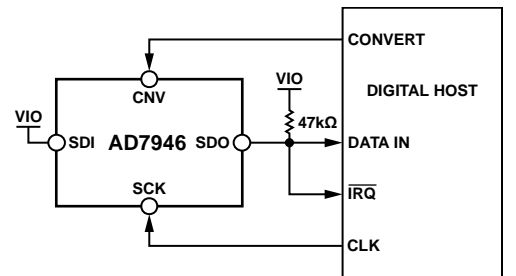
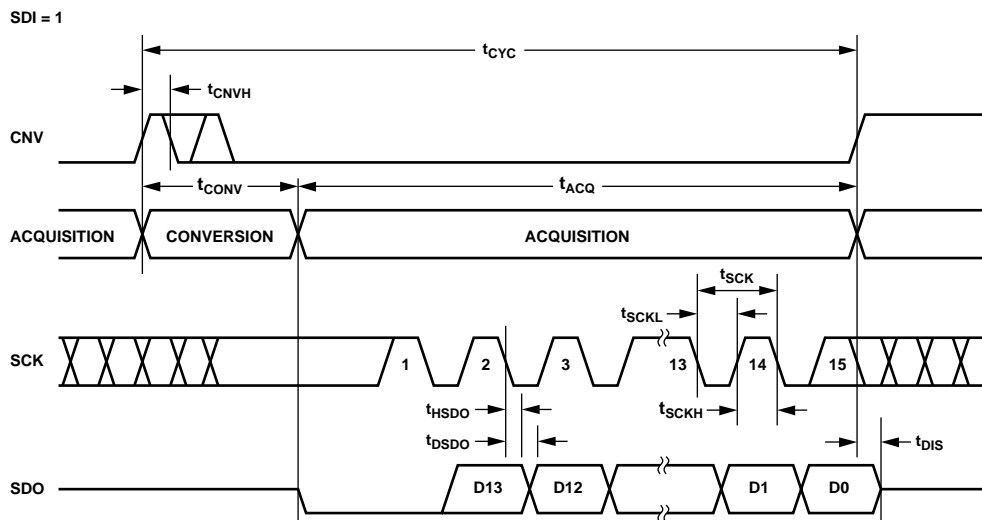
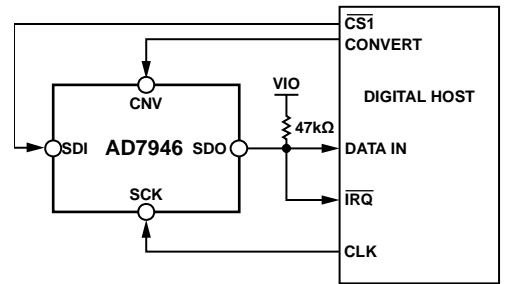
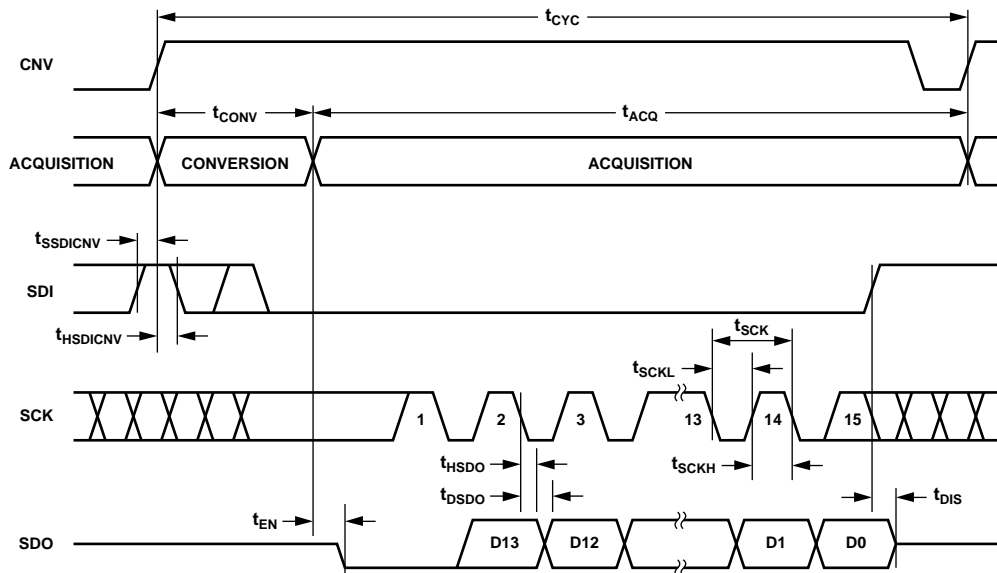

Figure 35.  $\overline{\text{CS}}$  Mode 3-Wire with BUSY Indicator Connection Diagram (SDI High)
Figure 36.  $\overline{\text{CS}}$  Mode 3-Wire with BUSY Indicator Serial Interface Timing (SDI High)
Figure 39.  $\overline{CS}$  Mode 4-Wire with BUSY Indicator Connection Diagram
Figure 40.  $\overline{CS}$  Mode 4-Wire with BUSY Indicator Serial Interface Timing
- In  $\overline{\text{CS}}$  mode, if CNV or SDI is low when the ADC conversion ends (see Figure 36 and Figure 40).
The connection diagram is shown in Figure 35, and the corresponding timing is given in Figure 36.
The connection diagram is shown in Figure 39, and the corresponding timing is given in Figure 40.